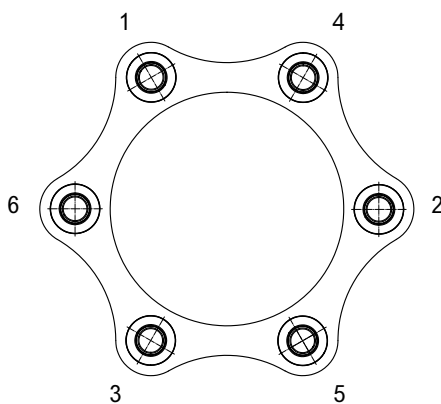

Figure 13
9.5 Apply a clean motor oil to the bolt threads and install a locknut on each bolt. Slightly tighten all locknuts using an alternating progressive pattern as shown in Figures 13 and 14, making sure all the bolts are fully seated. At this stage you will only be working with half of the bolts on the disc pack. Now tighten each locknut to the appropriate torque value shown in Table 5, using incremental torque in a progressive alternating pattern as shown in Figures 13 and 14.
9.10 Slightly tighten remaining locknuts using an alternating progressive pattern as shown in Figures 13 and 14, making sure the pack is not distorted and all the bolts are fully seated. Now tighten each locknut to the appropriate torque value shown in Table 5, using an incremental torque in a progressive alternating pattern as shown in Figures 13 and 14.